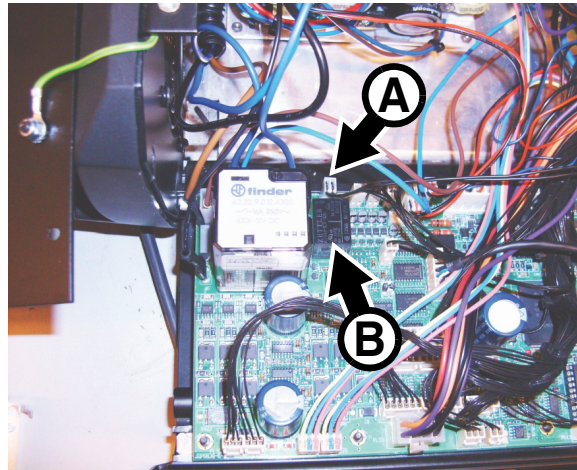

Figure 14
15. See Figure 14. Disconnect the reduced lamp power (dimmer) circuit connector **A** from connector PL49 behind the reduced lamp power relay **B** on the main PCB.